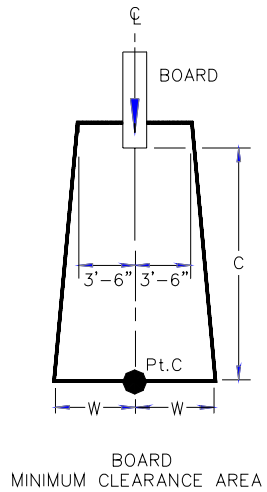

FIG. 3
- B. The minimum clearance area in front of a properly installed diving board on an inground swimming pool is a minimum distance of three feet six inches (3'-6") on either side of the board's centerline as shown in **FIG. 3**. Pt. C extends a minimum distance of "C" from
the tip end of the board as shown in **FIG.3**. The width distance “W” on either side of Pt. C is given in **CHART 1** and shown in **FIG.3**.
See Article 5 contained in ANSI/NSPI-5 2003 STANDARD FOR RESIDENTIAL INGROUND SWIMMING POOLS and refer to FIGURE 3 and Table 1 for Minimum Water Envelope Dimensions AB, BC and Width at Point C.